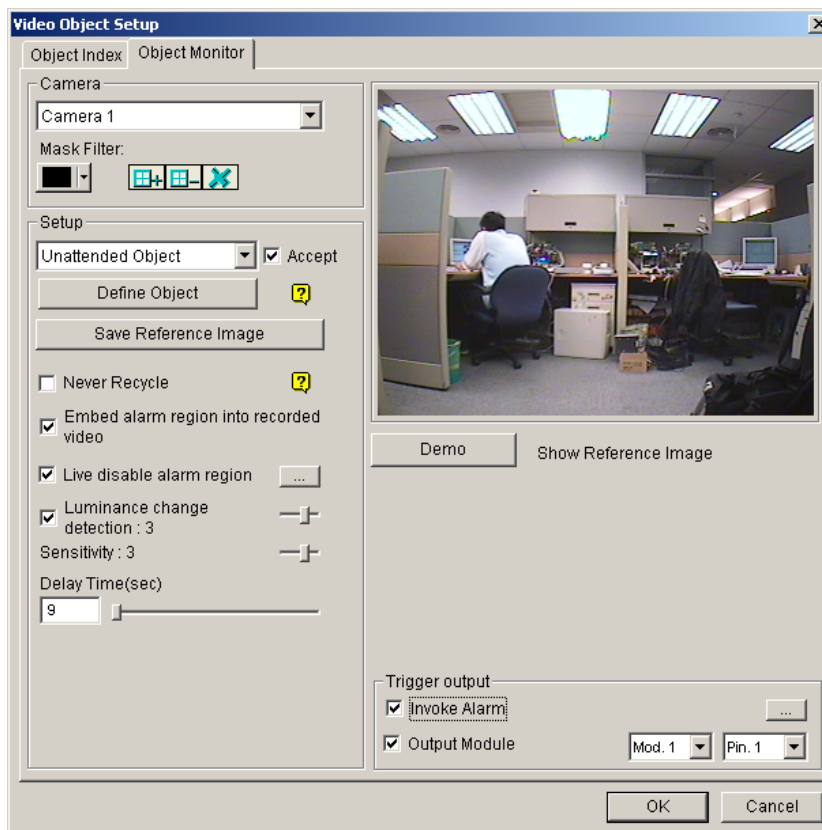

Figure 3-21 Object Monitor
3. Click the **Configure** button to display the Video Object Setup dialog box (Figure 3-21).
1. Follow the Step 1 to 4 in the above *Detecting Unattended Objects* section to display the Video Object Setup dialog box (Figure 3-21).